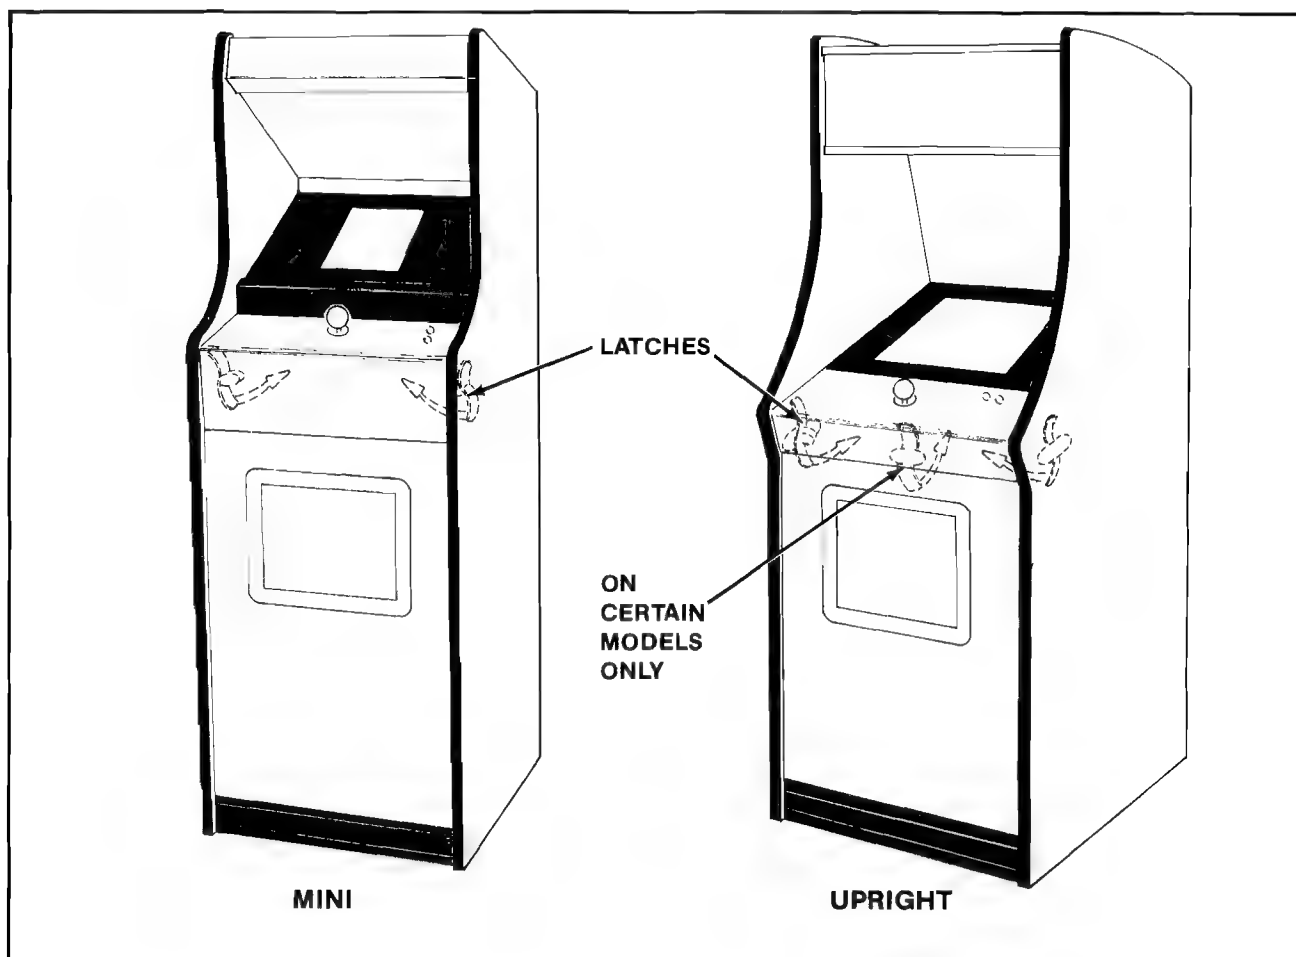

Figure 3-2 Opening the Control Panel — Upright & Mini
1. UPRIGHT MODEL: See Figure 3-2.
2. MINI MODEL: See Figure 3-2.